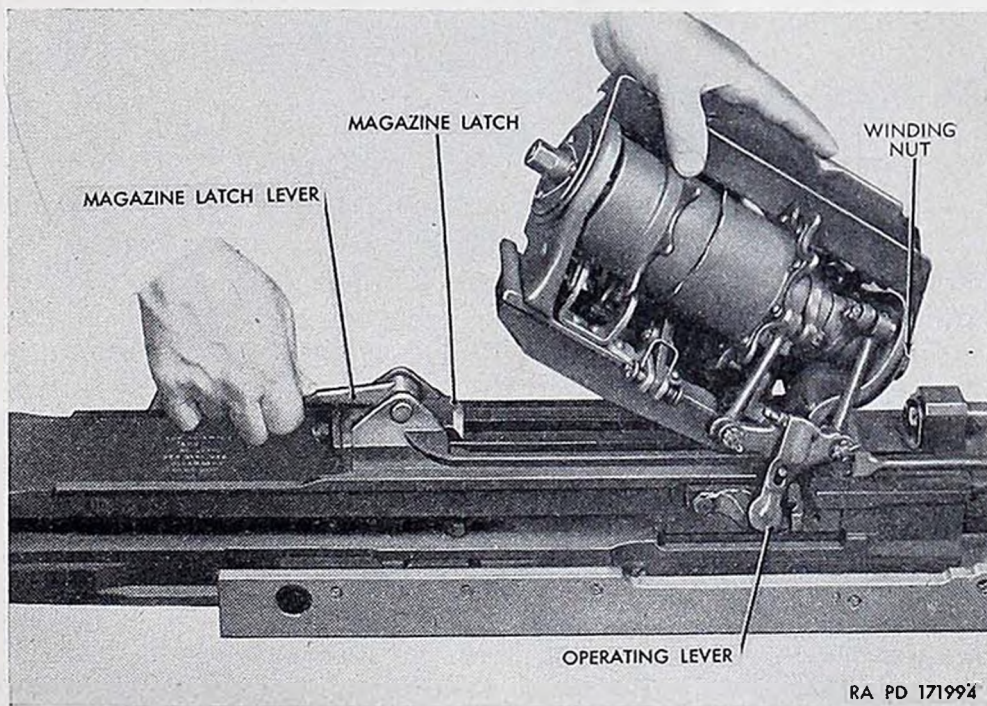

Figure 35. Installation of feed mechanism.
Note. The operations and installation shown in figures 35, 36, and 37 for the AN-M2 mechanism are also applicable to the M2E4 and M2E5 mechanisms.
c. Position the feed mechanism on the gun, with winding nut toward the muzzle of the gun, push feed mechanism forward until it engages the recesses at the forward part of the magazine slide, as shown in figure 35.